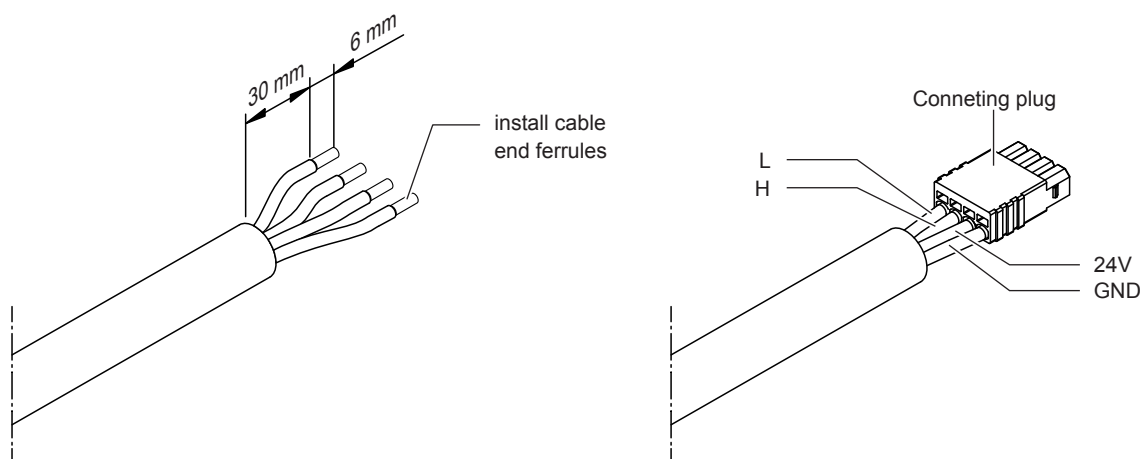

Fig. 21: Preparing the CAN BUS cable for the connection on the control board
4. Cut CAN BUS cable(s) to length. Prepare cable end(s) as shown in Fig. 21 and connect plug(s) to the CAN BUS cable(s).